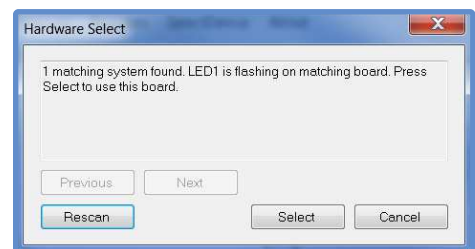

Figure 9. Hardware Select Window, Select Option Enabled
and Figure 6 to Figure 9, Added Software Operation Section,
3. After LED1 illuminates, click **Rescan** in the **Hardware Select** window. LED1 starts blinking, and the **Hardware Select** window updates with an option to select the device (see Figure 9).